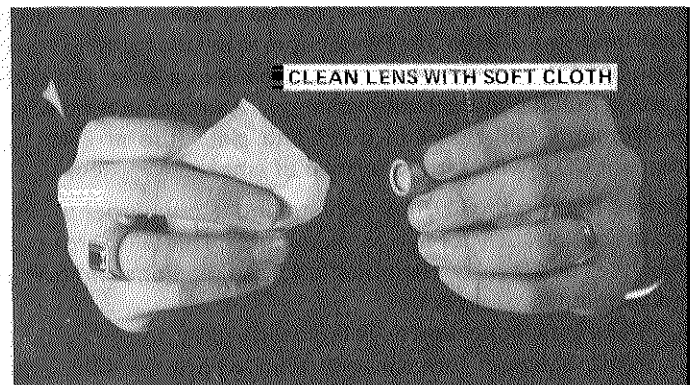

FIGURE 26
- 5 - Remove cad cell and check surface of cell for an accumulation of dust or soot. If cell is dirty, clean carefully with a soft cloth, then resecure in place. See Figure 26.